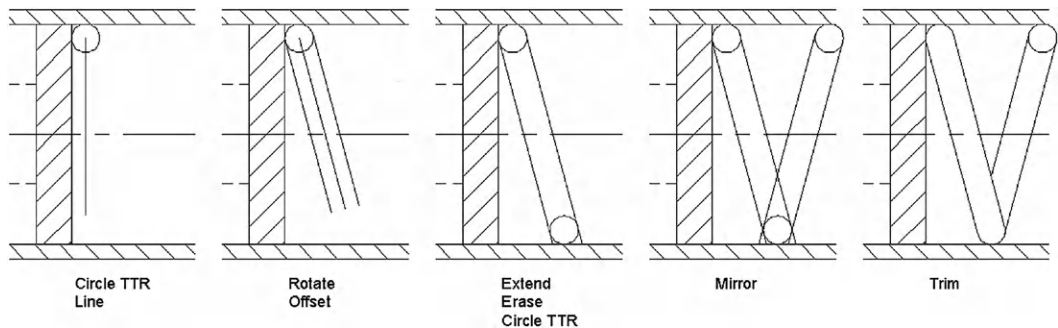

FIGURE 8.31
Step 11. Now, how do you do the spring? Well, this is where the Circle/TTR comes in. Although we have not practiced this version of the circle command, it is very simple to do. Start it up and select the TTR option. Then, pick the vertical and the horizontal lines where the circle needs to go (seen in Figure 8.31) and specify a radius (0.10"). One way of proceeding is to draw a straight arbitrary line down from the center of that circle, rotate the line 15° about that center point, then offset 0.1" in each direction, erase the original line, extend the two new ones to the bottom (if necessary), and repeat the process, as seen in Figure 8.31. Once a